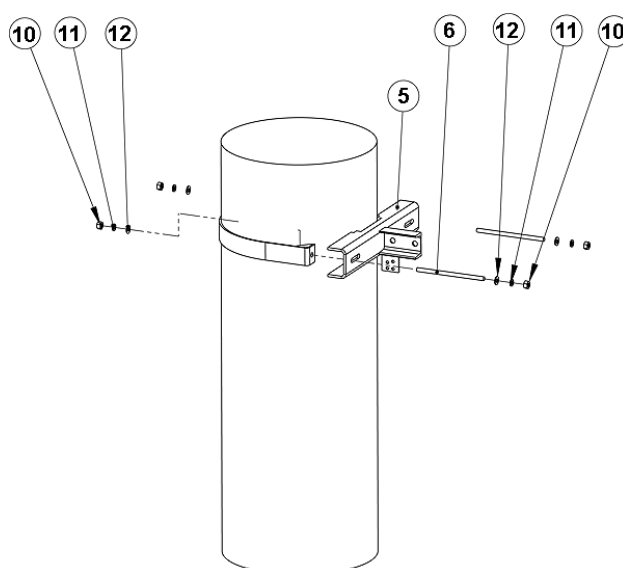

Figure C-18: Installing 3 Sector Clamps for 16"-20"/24"-30" Monopole
- 3 Assemble the 3 clamps as shown in Figure C-18 using bolts, washers, spring washers and nuts from the list in Table C-6.